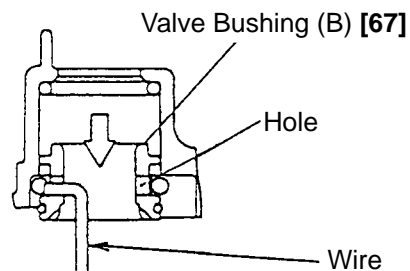

Fig. 19
- ③ Insert a hooked wire into the hole of Valve Bushing (B) [67] as shown in Fig. 19 and take out Valve Bushing (B) [67] being careful not to scratch the inside of Valve Bushing (B) [67].
- Be careful not to scratch Valve Piston (B) [70] and Valve Bushing (B) [67].
- Do not pull out the tip of Plunger (A) [73] with pliers or other tools.